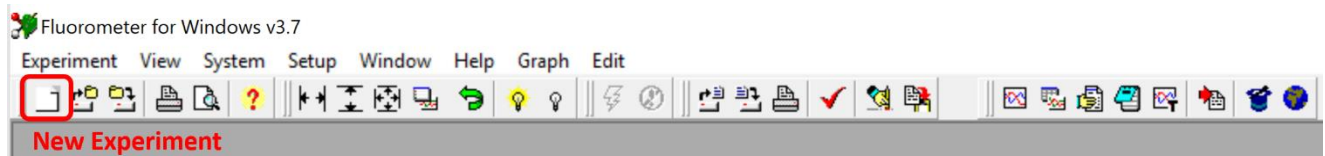

Fig. 6 Opening of new experiment.
1. Click on icon **New Experiment** on the top bar (Fig. 6). Window with blank experiment opens.